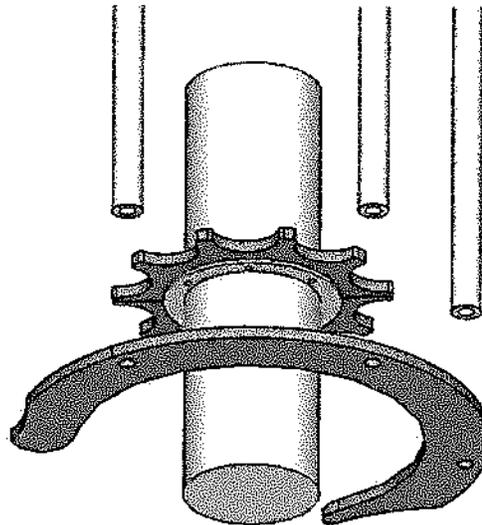

fig.31
- Remove the conveyor (fig.31).